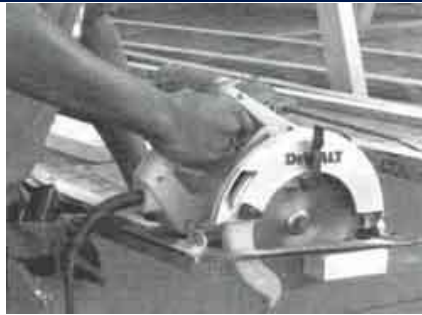

Figure 2. This worker is using a power saw that has all moving parts, including the saw blade, properly guarded.
- Make sure guards are in place before using power saws (Figure 2). Don't use power saws with the guard tied or wedged open.